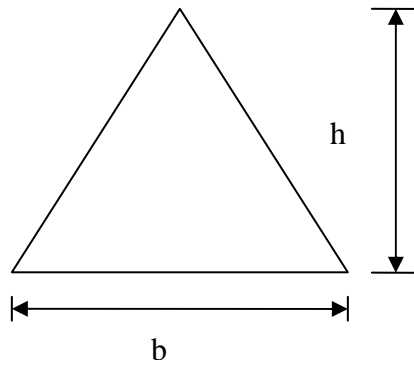

Fig.6
- c) Determine the shape factor for a triangular section having base width 'b' and height 'h', shown in Fig.6. [15]